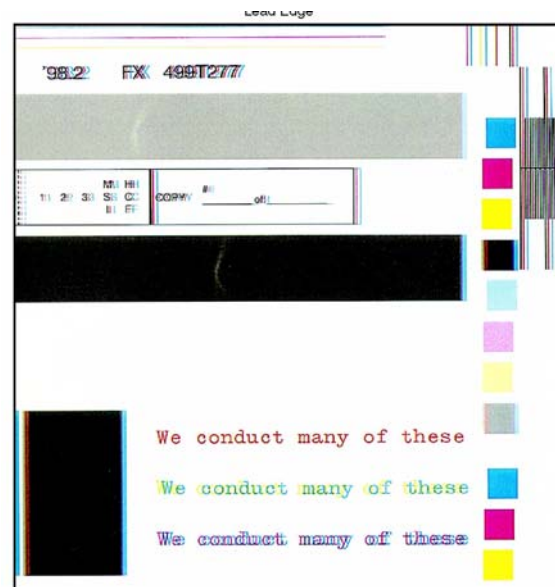

Figure 1 Color Misregistration Defect Sample
1. Check customer print to verify color to color misregistration as in Figure 1.